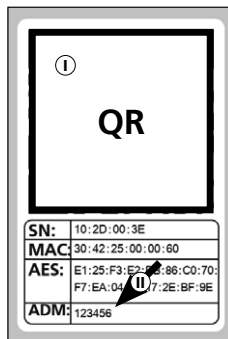

Fig. 3
The QR code (I) is required later when setting up the set using the BURG-WÄCHTER KeyApp (Fig. 3).
The sets are delivered with a factory-assigned random administrator code (II), therefore a code change is not mandatory (Fig. 3).